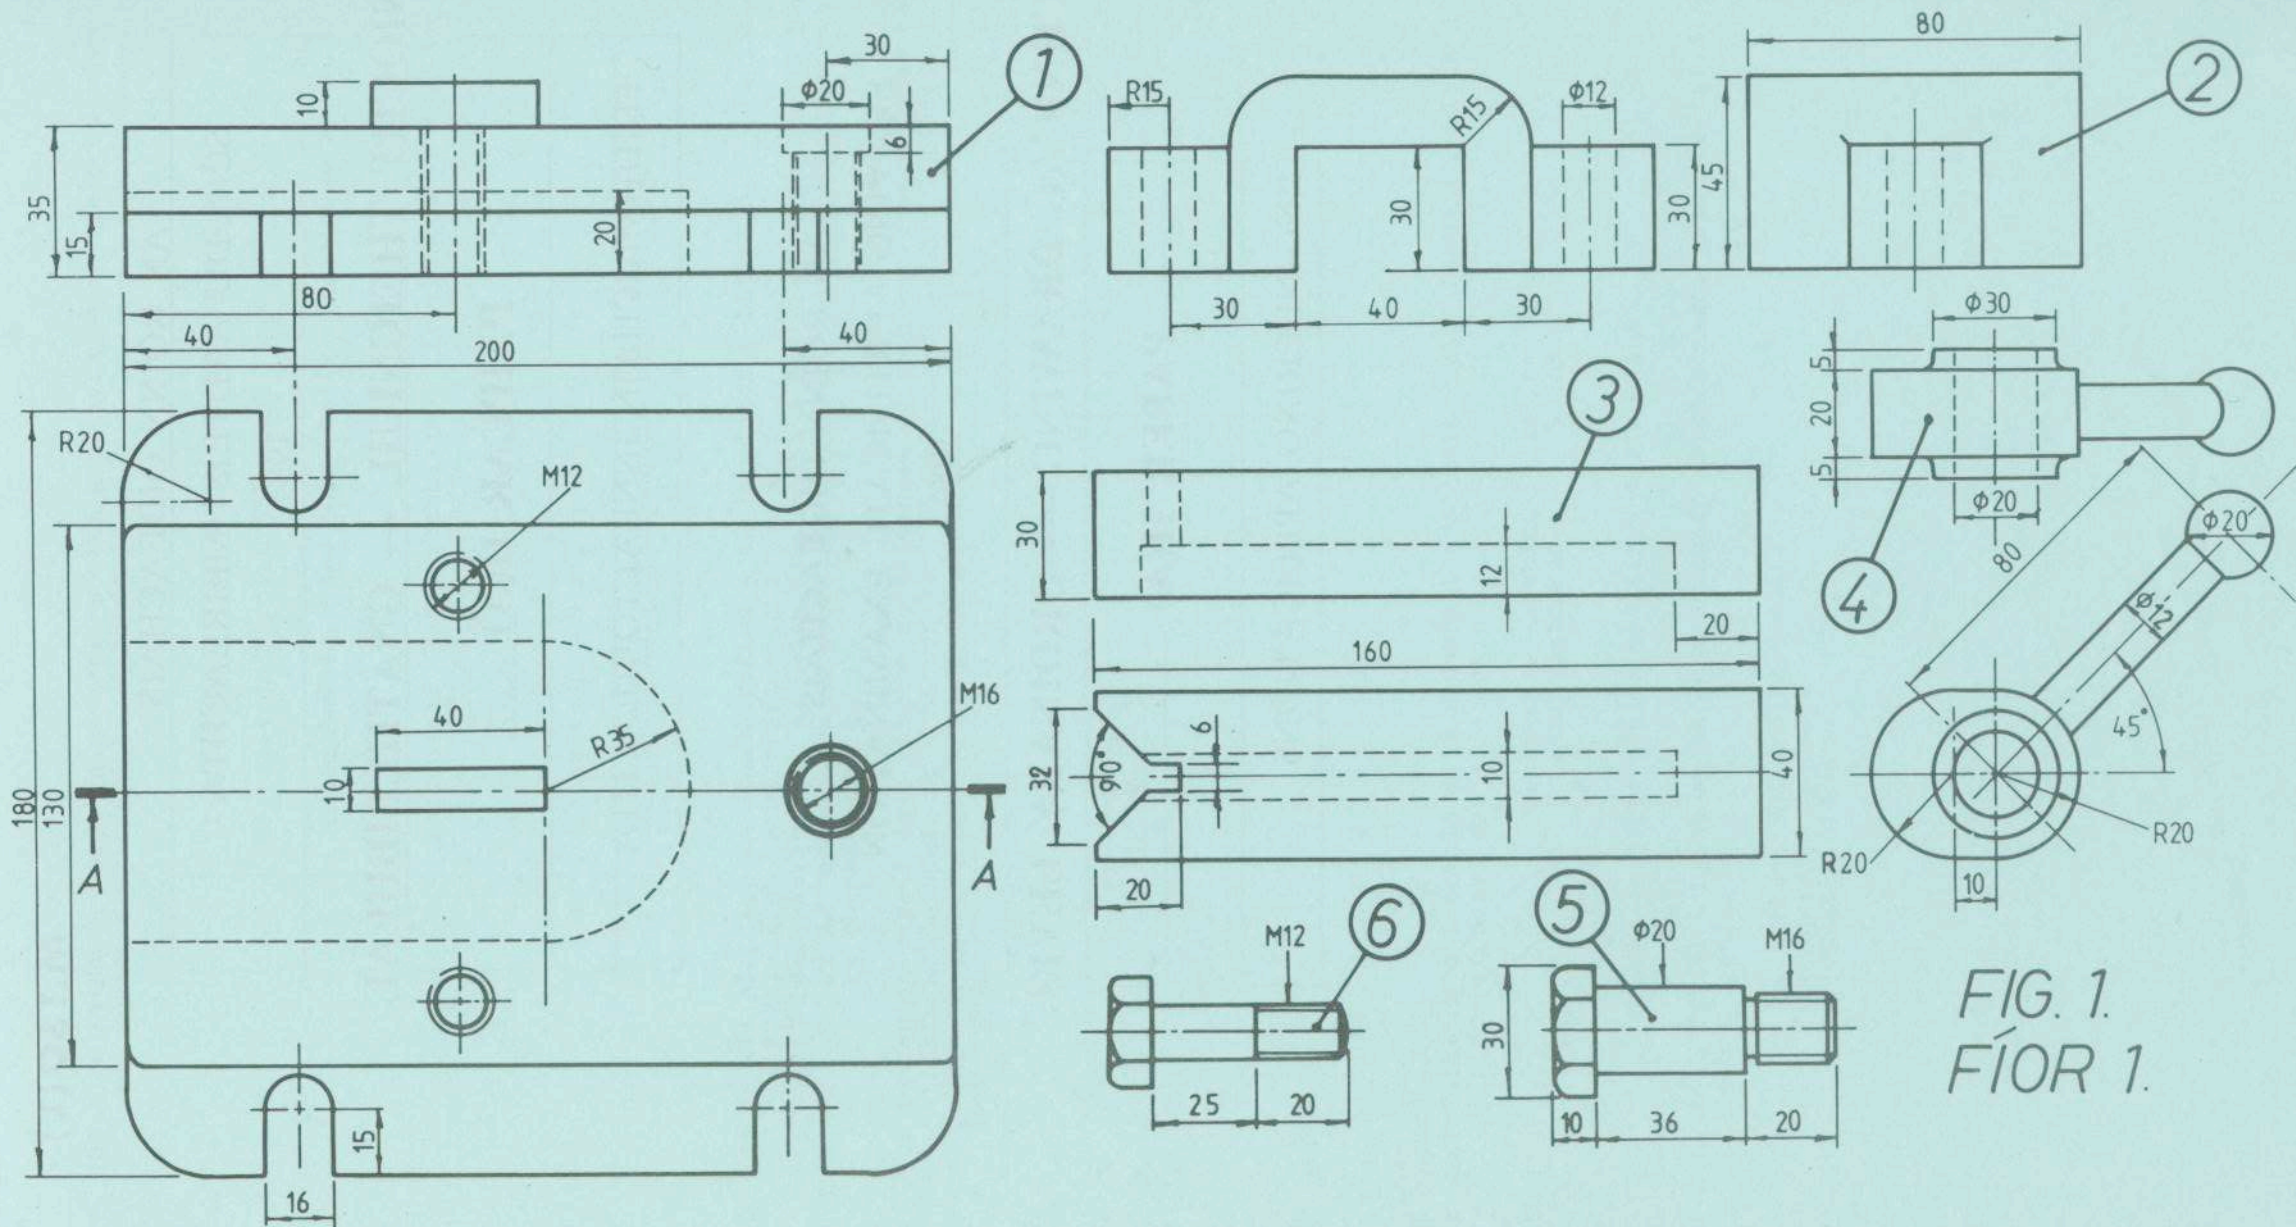

FIG. 1.
1. Details of a Clamping Device assembly are given in Figure 1 with parts list tabulated below.